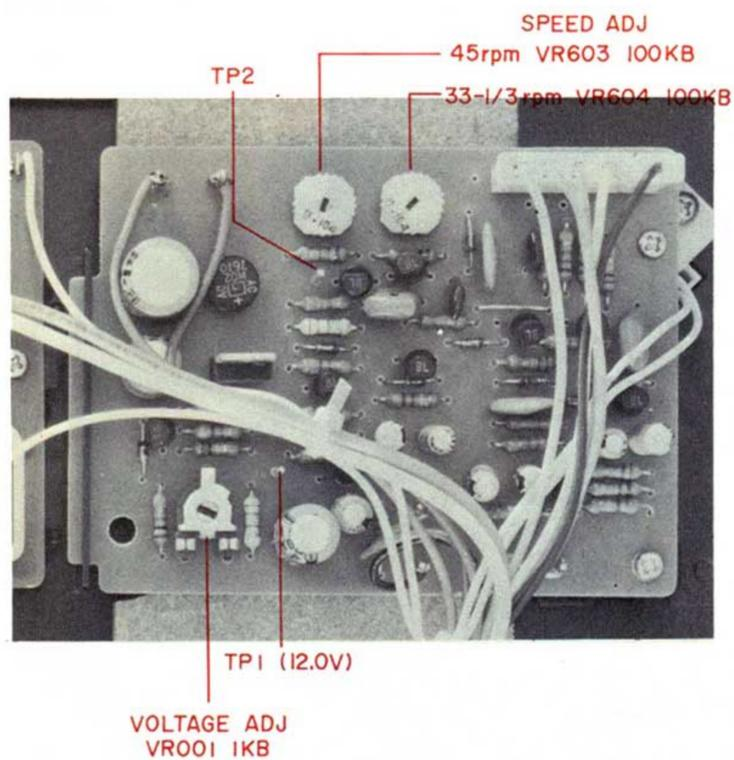

Fig. 3 Control P.C Board
#### ADJUSTMENT (Refer to Fig. 3)
#### (Refer to Figs. 3 and 4)
- 2) Observe Row 1 revolutions of Strobe markings. Adjust VR604 100 kB (Fig. 3) until Row 1 Strobe markings appear to come to a stand-still.
- 4) Observe Row 2 revolutions of Strobe markings. Adjust VR603 100 kB (Fig. 3) until Row 2 Strobe markings appear to come to a stand-still.
- 2) Observe Row 3 revolutions of Strobe markings. Adjust VR604 100 kB (Fig. 3) until Row 3 Strobe markings appear to come to a stand-still.
- 4) Observe Row 4 revolutions of Strobe markings. Adjust VR603 100 kB (Fig. 3) until Row 4 Strobe markings appear to come to a stand-still.